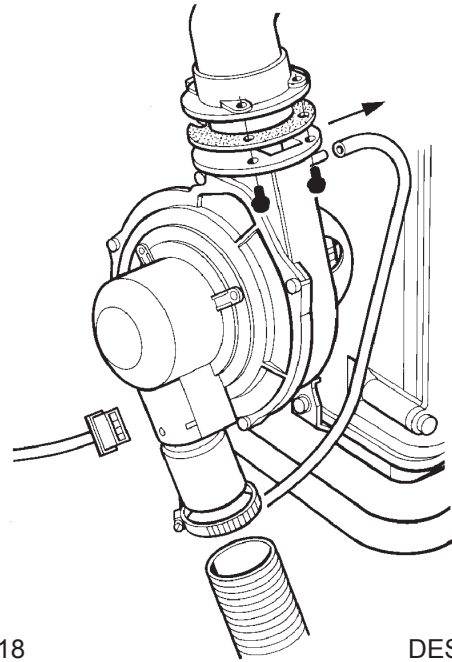

FIG. 18
5. Disconnect air inlet duct by unscrewing hose clip (See Fig. 18).
6. Disconnect electrical connection at the back of the fan. (See Fig. 18).
9. To separate the fan from the manifold, unscrew the 2 x M5 cap head screws with an appropriate allen key. (See Fig. 18).